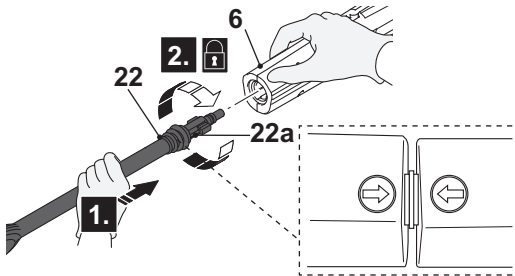

Fig. 8
- > Align the tongues (22a) of the extension lance (22) with the grooves of the connection port of the spray gun (6) and insert it. (Fig. 8, step 1).
- > Securely fit the extension lance (22) by turning it clockwise to lock it in place (Fig.8, step 2). Ensure the arrow on the spray gun aligns with the arrow on the extension lance.